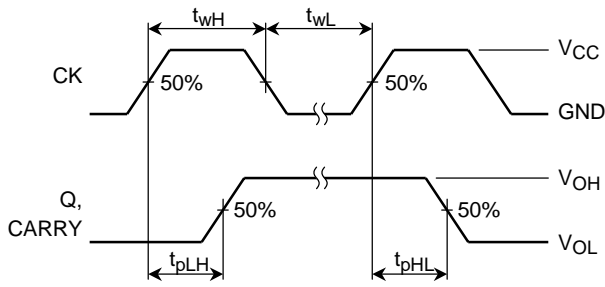
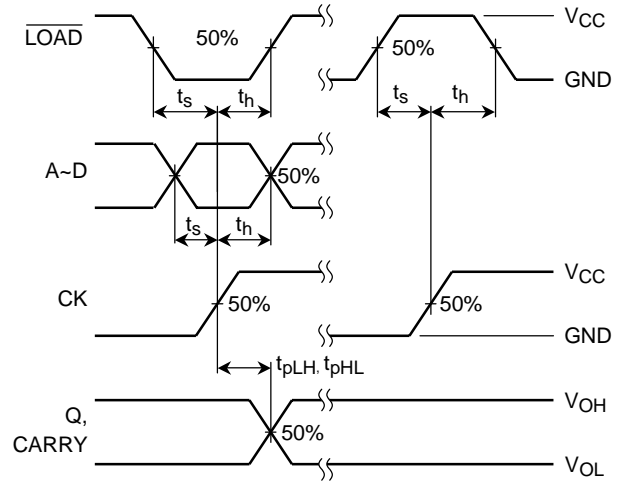
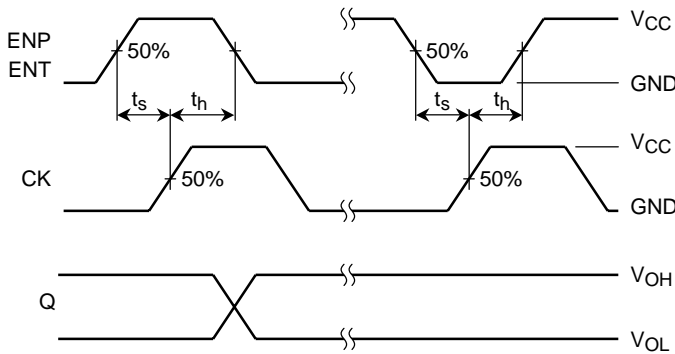

Figure 1
Figure 2
Figure 3
| Minimum pulse width (CK) | $t_w(H)$ $t_w(L)$ | Figure 1 | 3.3 ± 0.3 | 5.0 | 5.0 | ns | |
| Minimum set-up time (A, B, C, D) | t_s | Figure 2 | 3.3 ± 0.3 | 5.5 | 6.5 | ns | |
| Minimum set-up time (\overline{LOAD}) | t_s | Figure 2 | 3.3 ± 0.3 | 8.0 | 9.5 | ns | |
| Minimum set-up time (ENT, ENP) | t_s | Figure 3 | 3.3 ± 0.3 | 7.5 | 9.0 | ns | |
| Minimum hold time | t_h | Figure 2, Figure 3 | 3.3 ± 0.3 | 1.0 | 1.0 | ns | |
| Propagation delay time (CK-Q) | t_{pLH} t_{pHL} | Figure 1, Figure 2 | 3.3 ± 0.3 | 15 | — | 8.3 | 12.8 | 1.0 | 15.0 | ns |
| Propagation delay time (CK-CARRY) [Count mode] | t_{pLH} t_{pHL} | Figure 1 | 3.3 ± 0.3 | 15 | — | 8.7 | 13.6 | 1.0 | 16.0 | ns |
| Propagation delay time (CK-CARRY) [Preset mode] | t_{pLH} t_{pHL} | Figure 2 | 3.3 ± 0.3 | 15 | — | 11.0 | 17.2 | 1.0 | 20.0 | ns |